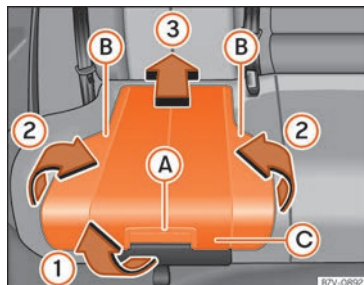

Fig. 32 Integrated child seat: lift the cushion.
- Pull the unlock lever » **Fig. 32** (A) on the cushion in the direction of the arrow » **Fig. 32** (1).
- Fold both sides »» Fig. 32 (B) up in the direction of the arrow »» Fig. 32 (2).
- Push the cushion »» Fig. 32 (C) back in the direction of the arrow »» Fig. 32 (3) until it engages.